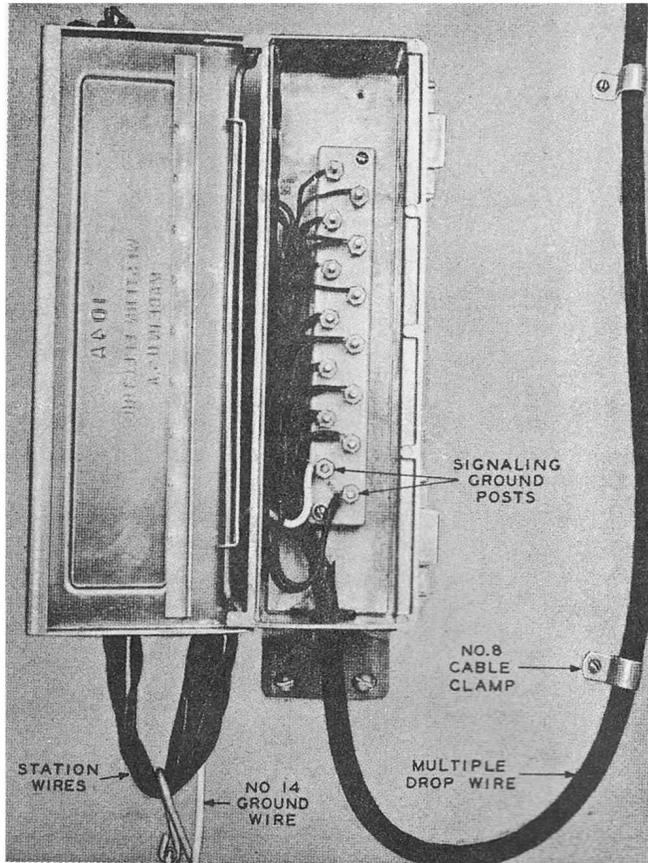
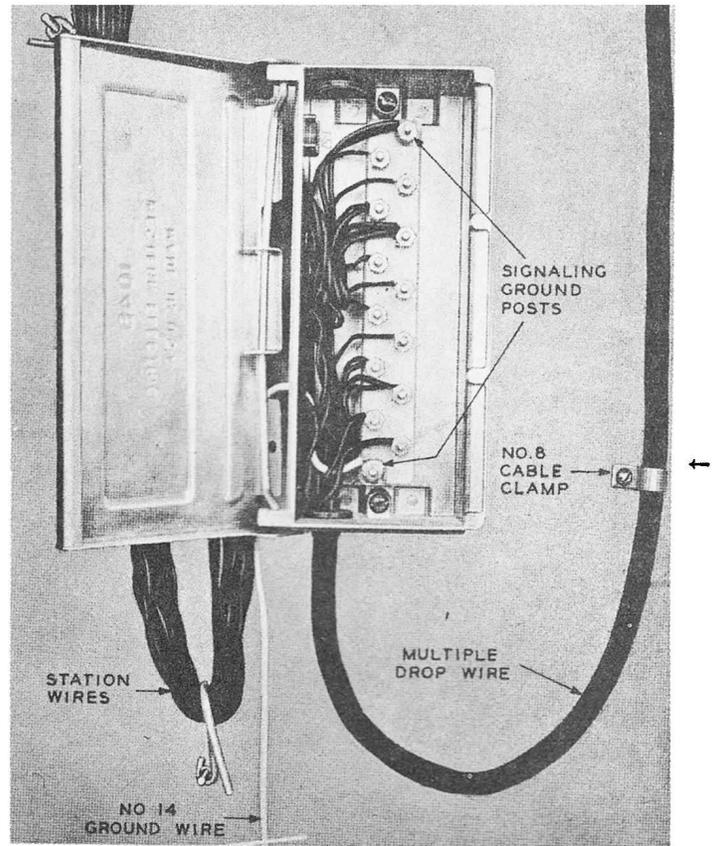

Fig. 3 – Wiring of 104A Wire Terminal
Fig. 4 – Wiring of 104B Wire Terminal
5.01 The 104A wire terminal shown in Fig. 3 and the 104B wire terminal shown in Fig. 4 are wired with multiple drop wire, but may also be used with separate block or drop wires.